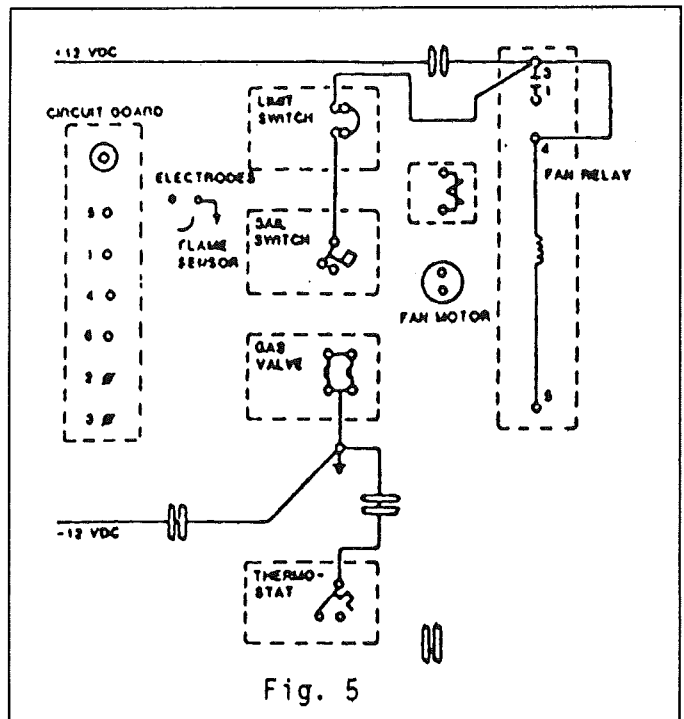

Fig. 5
- A. On stand by the +12 VDC is connected to terminal #3 of the fan relay which is closed. The voltage will extend (1) through the red wire to terminal #1 of the open fan relay, (2) through another red wire to the limit switch, (3) through the limit, (4) through the red wire to the sail switch. See Fig. 5.